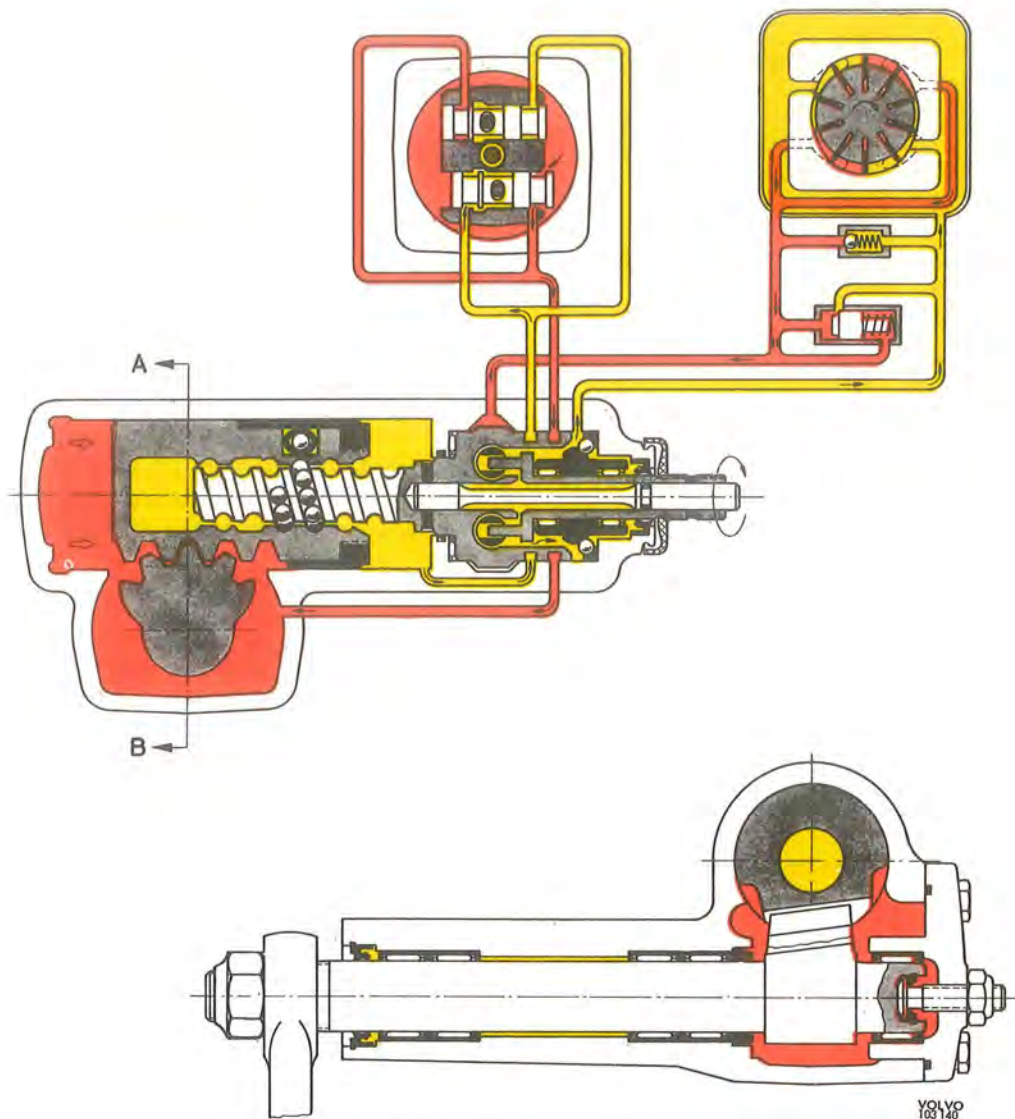

Fig. 6-35. Function, right-hand turn
The lever shaft (20) is journaled in the steering box and side cover by means of needle bearings, see Fig. 6-35. Sealing between the valve housing and the upper section of the housing as well as between the intermediate piece and steering cam is catered for by O-rings and plastic rings.
As soon as the front wheels have been turned to the desired position, and the forces acting on the steering wheel become less, the control valves return to the neutral position under the influence of the torsion rod. When the steering wheel is turned to the right (see Fig. 6-35), the piston (2) is screwed to the right in the figure. The control valve (10) is moved to the right and permits oil under pressure to pass to the annular groove (18) of the valve housing and from there to the left side of the cylinder. Oil under pressure also flows to the return groove (7) which, however, is closed so that the oil pressure on the left side of the operating piston (2) rises and facilitates turning of the lever shaft. Oil at the right side of the cylinder is pressed by the piston via the annular groove (19)
Turning the steering wheel to the right (see Fig. 6-35) will screw the piston (2) to the right on the figure. The control valve (10) is displaced to the right and permits oil under pressure to pass to the annular groove (18) of the valve housing and from there on to the left-hand side of the cylinder. Oil under pressure also flows to the return groove (7) which, however, is closed so that oil pressure on the left-hand side of the operating piston (2) rises and facilitates the turning of the lever shaft. Oil at the right-hand section of the cylinder is pressed by the piston via the annular groove (19) through the return groove (6) of the control valve (10) back to the oil container (13).
The space in the intermediate piece is oval, see Fig. 6-35. This permits the area between the rotor, the wall of the intermediate piece and two of the vanes to